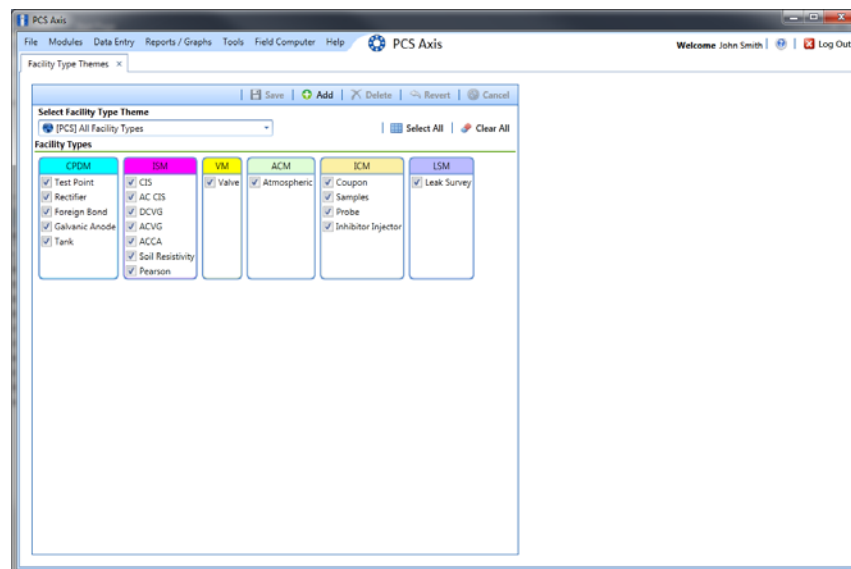

Figure 13-3. Facility Type Themes Management
- 1 If the *Facility Type Themes* window is not open, click **Tools > Facility Type Themes** (Figure 13-3).